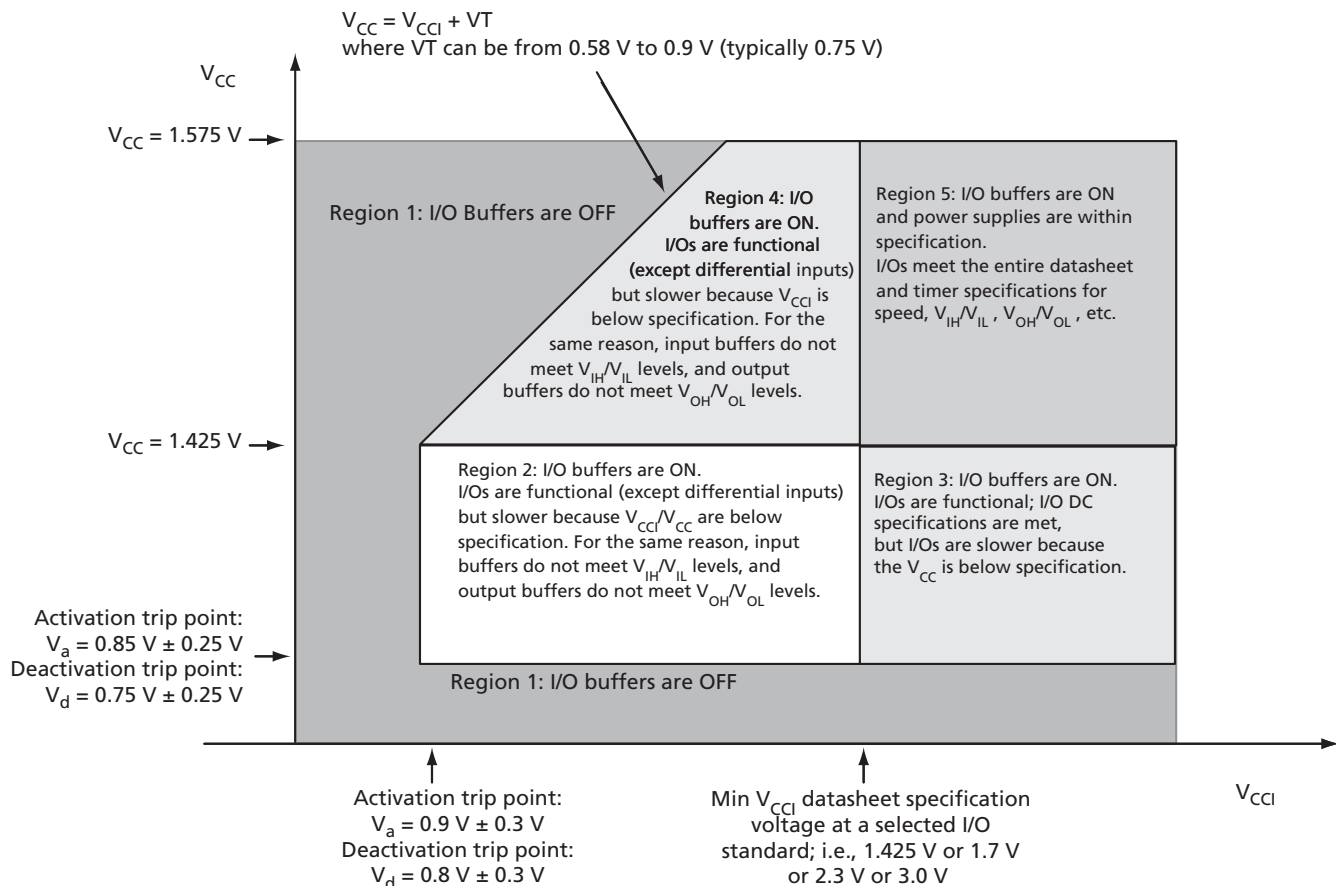

Figure 3-1 • I/O State as a Function of V_{CCI} and V_{CC} Voltage Levels
Sophisticated power-up management circuitry is designed into every IGLOO device. These circuits ensure easy transition from the powered-off state to the powered-up state of the device. The many different supplies can power up in any sequence with minimized current spikes or surges. In addition, the I/O will be in a known state through the power-up sequence. The basic principle is shown in Figure 3-1.
1. V_{CC} and V_{CCI} are above the minimum specified trip points (Figure 3-1).